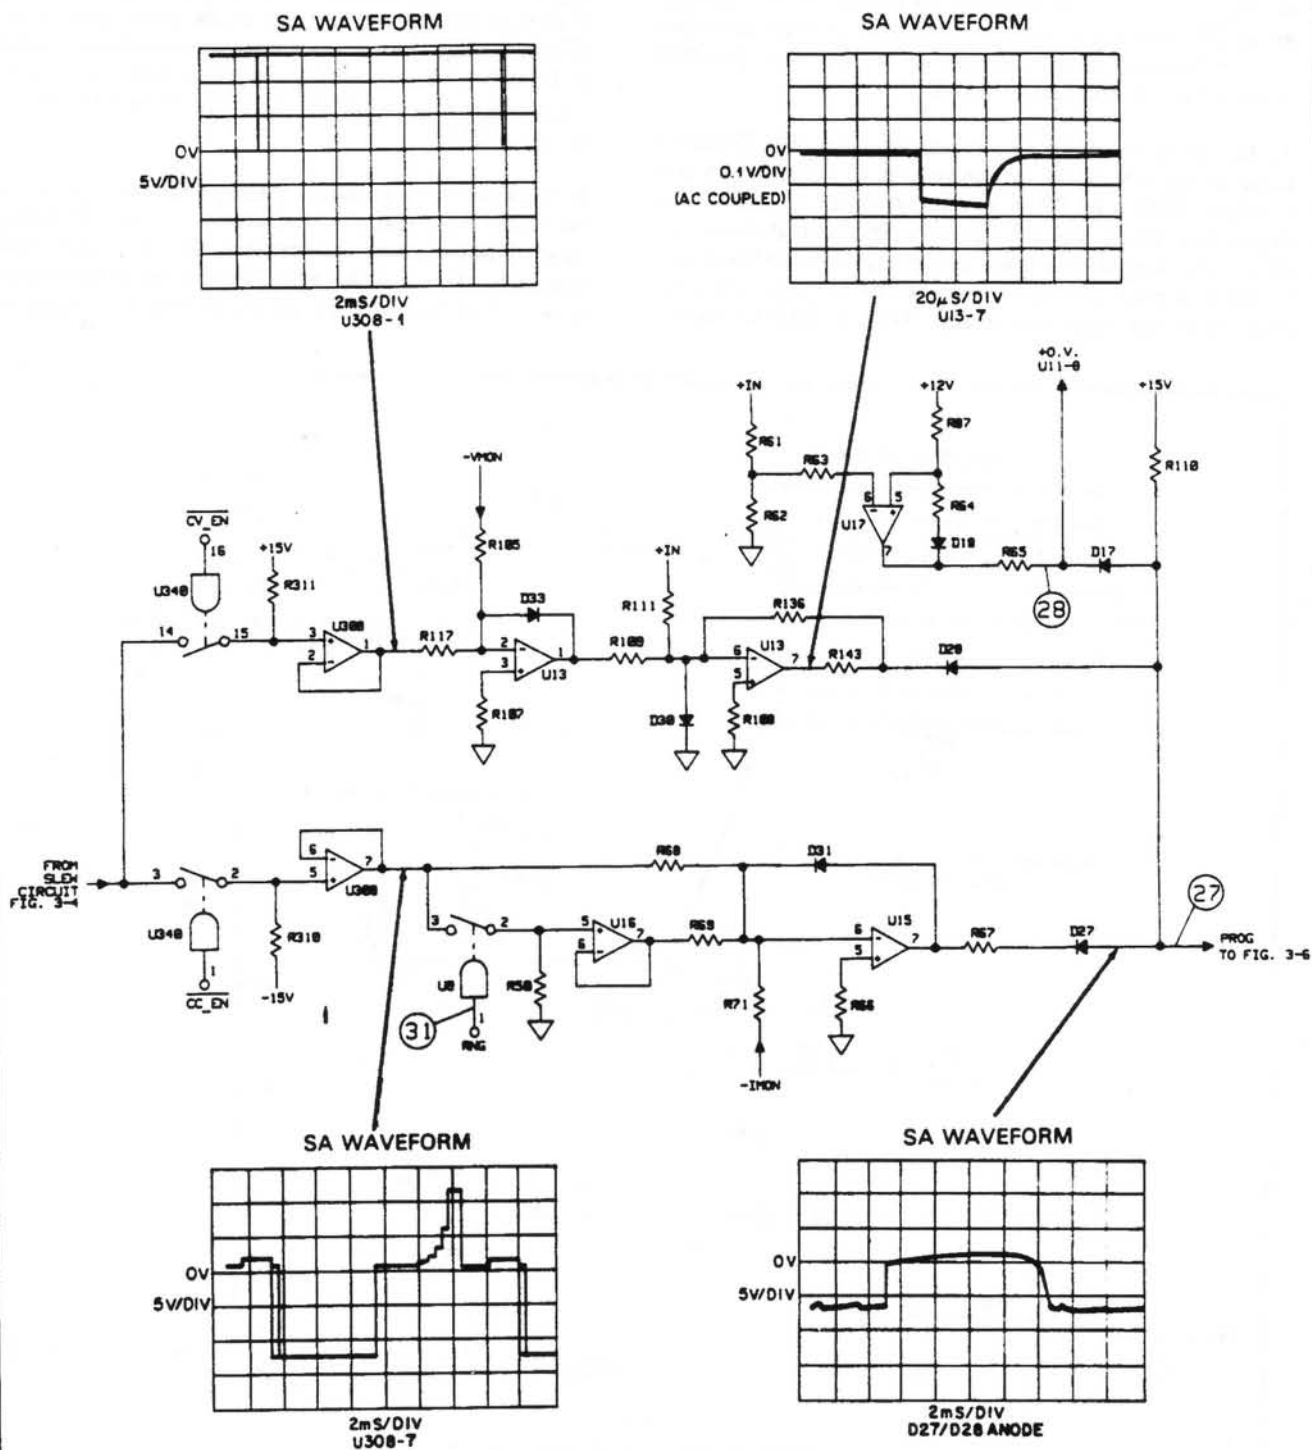

Figure 3-5. CC/CV Control Circuits Troubleshooting
CC/CV CONTROL CIRCUIT TROUBLESHOOTING (Figure 3-5)
The overvoltage (OV) circuit (U17, D17) is also shown on Figure 3-5. When an OV condition is detected, the OV circuit generates a negative signal via diode D17 which causes the input power stages to increase current flow in order to limit the input voltage. The OV condition is detected when the input voltage exceeds 75V. When activated the OV circuit takes control from the CC or CV control circuit.
To troubleshoot the CV or CC circuits, place the Electronic Load in the SA mode by connecting the jumpers in test headers TP201 and TP301 in the SA mode positions (see Figure 3-2). The waveforms shown in Figure 3-5 can only be generated when SA mode is on. If the waveforms are correct but a problem exists, troubleshoot the input power stages as described in the next section.